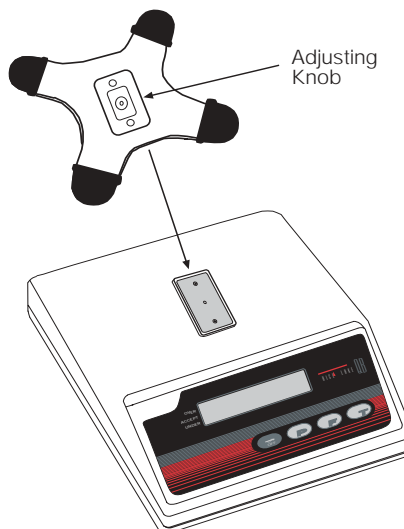

Figure 1-4. Attach Weighing Pan Support
5. Secure the weighing pan support onto the device. Tighten the adjusting knob until it is finger tight. Do not use a screwdriver (see Figure 1-4).